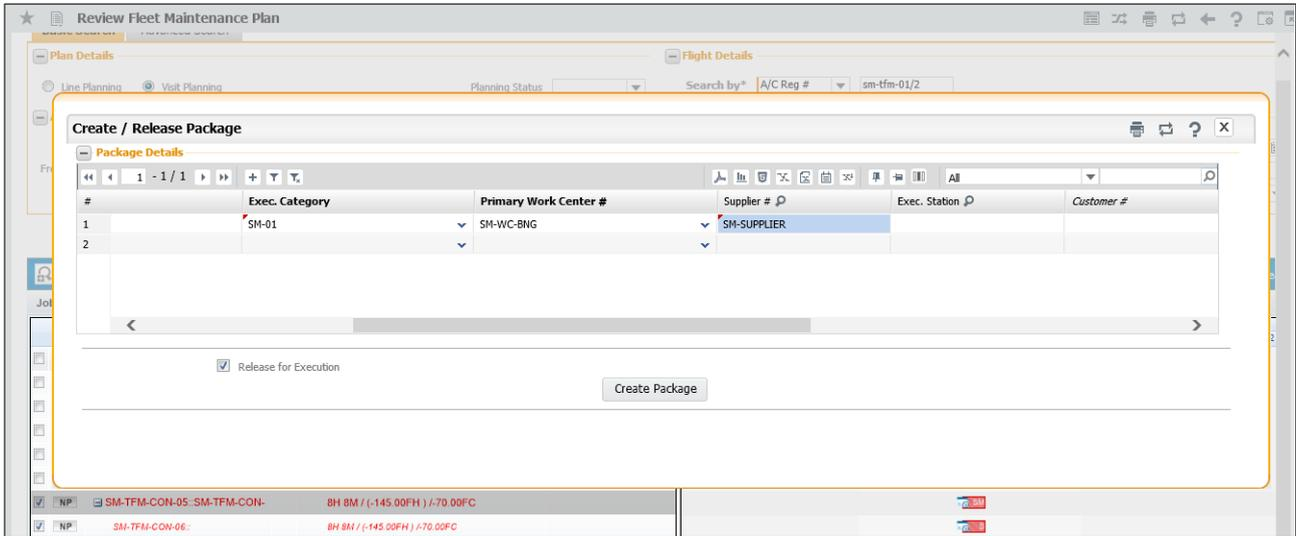

Figure 4.5 Creating / releasing the package
8. User is required to select the Supplier # in **Create / Release Package** screen of **Aircraft Maintenance Planning** business component, while releasing packages having 'Transfer of Aircraft Required?' selected as "Yes". Enter the Supplier # having valid partner id and participating in data sharing arrangement. See Figure 4.5.